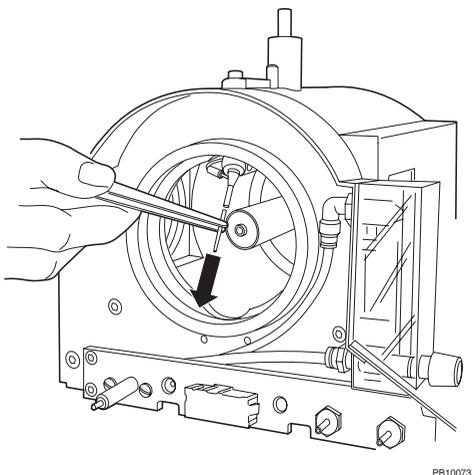

Figure 4-1 Replacing the Corona Discharge Needle
2. With a forceps, grasp the corona discharge needle and pull it out of the holder (Figure 4-1).